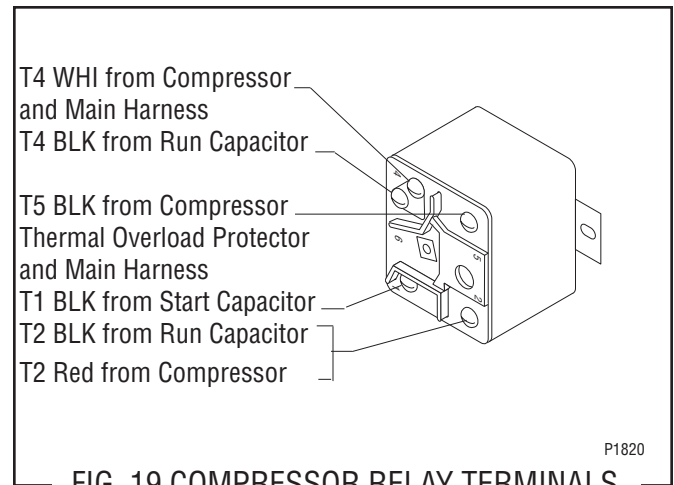

FIG. 19 COMPRESSOR RELAY TERMINALS
5. Refer to Fig. 19 and reconnect the wires.